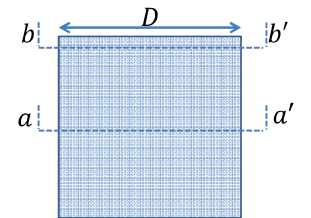

Figure 2
2. Now consider a square Copper conductor as shown in Figure 2. Repeat Problem 1, for this conductor. This time you may need to choose different grids and plot current density at different cross-sections.